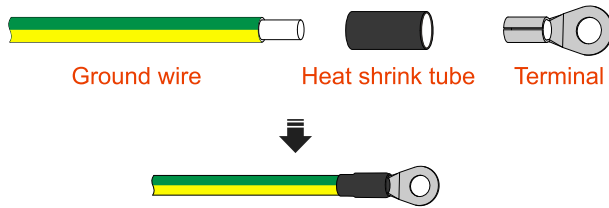

Figure3-26 Grounding wire crimping diagram
- Step 1 Strip the insulation layer of the grounding wire by crimping tool, and crimp it into the corresponding terminal, as shown in Figure3-26.